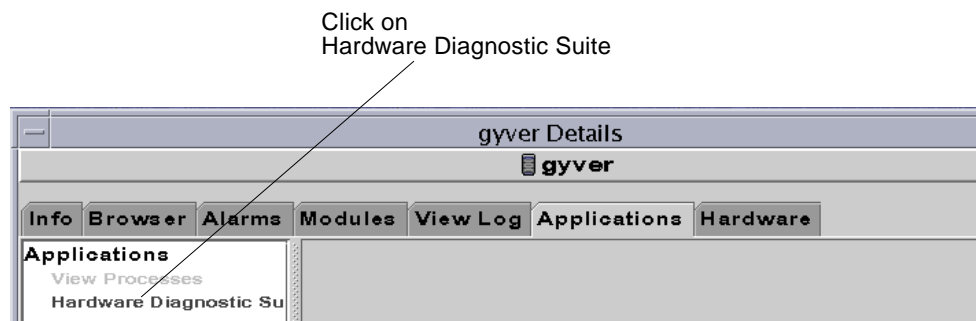

FIGURE 2-6 Accessing Hardware Diagnostic Suite Through the Applications List
4. Click on **Hardware Diagnostic Suite** from the list of Applications (FIGURE 2-6).